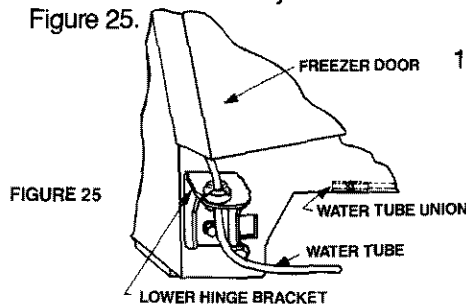

FIGURE 25
- The freezer door water line will thread through the bottom hinge; lift the door off carefully. See Figure 25.